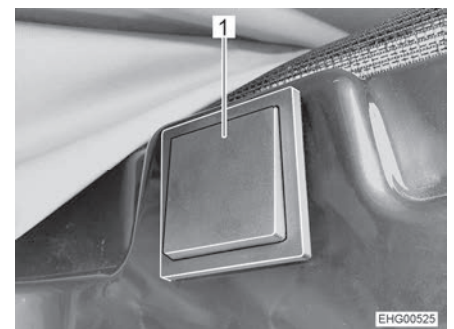

Fig. 58 Push button for electrical release
The push button for the electrical release (Fig. 58) is located on the right-hand side in the area above the sliding door.
- Press and hold the push button (Fig. 58,1) for least 2 seconds.